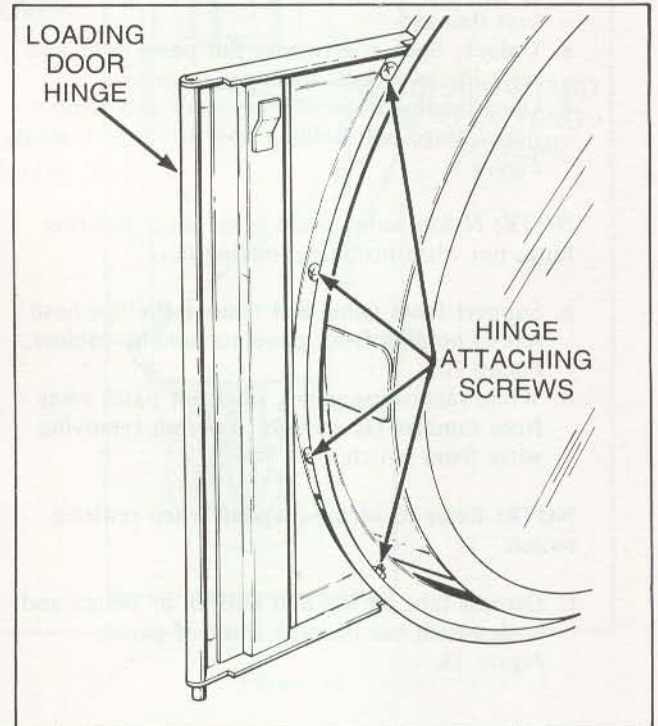

Figure 10
- b. Remove four nuts, lockwashers and screws holding hinge to door frame, Figure 10.
- g. Support front panel and remove Phillips head screws holding front panel to tumbler cabinet, *Figure 10*.